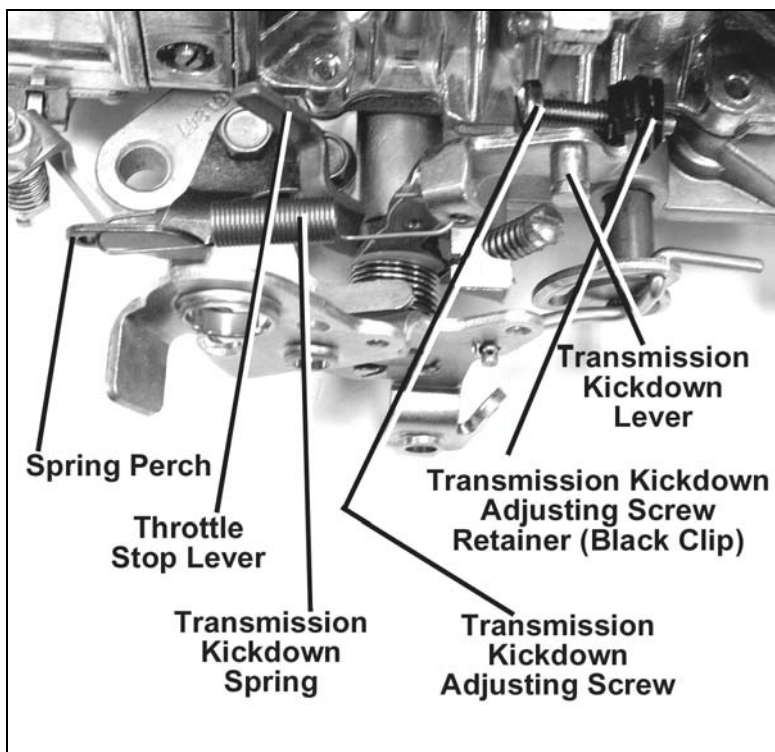
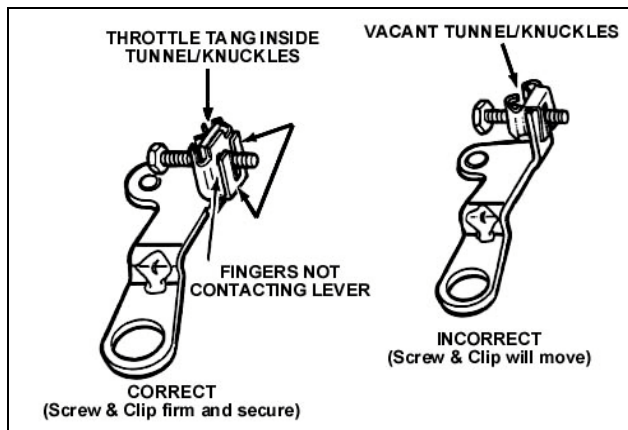

Figure 4
Figure 5
2. Insert the transmission kickdown adjusting screw with the black retaining clip on the transmission kickdown lever (Figure 4). This assembly must be installed according to the detailed drawing (Figure 5).
4. Install the transmission kickdown spring between the transmission kickdown lever and spring perch (Figure 4).